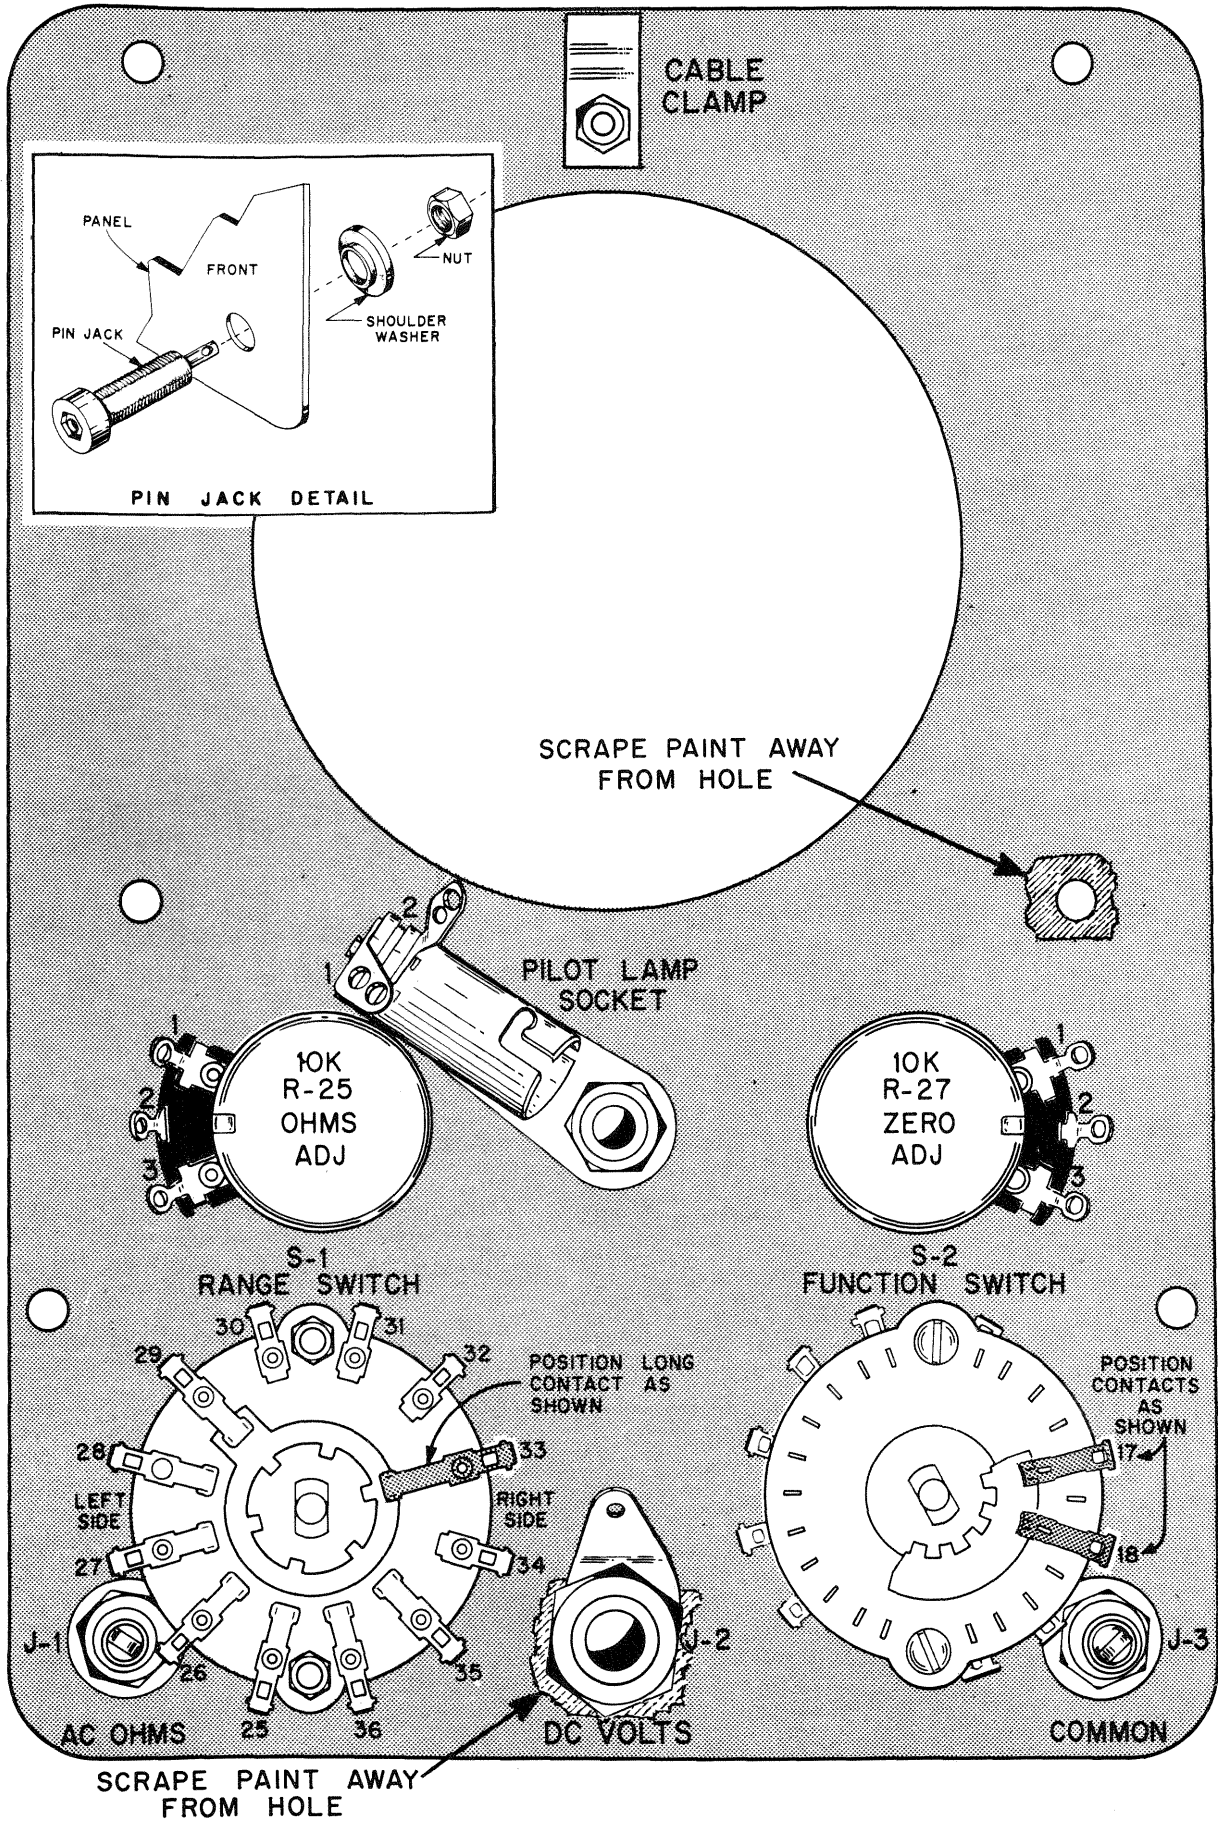
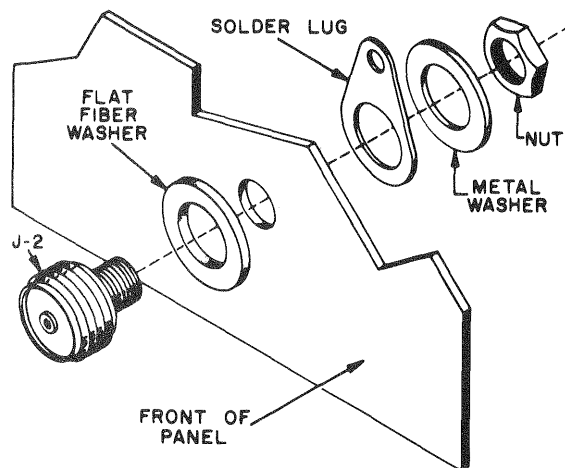

FIGURE 1. MOUNTING THE PARTS ON THE PANEL
FIGURE 4. HOW TO MOUNT THE CHASSIS CONNECTOR
### SEE FIGURES 1 AND 2
- (X) Mount R-27, 10K ohm ZERO ADJUST potentiometer, in the large hole in the right center of the panel, in the same manner.
- (X) Mount the pilot light socket between R-25 and R-27. The bracket must be positioned as shown in Figure 1. THE BRACKET MUST BE CLOSE TO R-25 BUT NOT TOUCHING IT.
- (X) Mount J-1, the red pin jack, in the lower left corner of the panel. Use a **shouldered fiber washer** on the **inside of the panel** to insulate the jack from the panel. Now, tighten a nut against the washer. Refer to the pin jack detail in the upper left corner of Figure 1.
- (X) Mount J-3, the black pin jack, in the lower right corner of the panel in the same manner.
- (X) Scrape the paint from the two holes as shown.
- (X) Mount J-2, the chassis connector in the large hole in the lower center of the panel. This connector is supplied with a shouldered fiber washer. Take this washer off and throw it away. Place the flat fiber washer over the small threaded end of the connector. Scrape the paint from around this hole on the rear of the panel. Insert the small threaded end through the hole in the panel. Place the solder lug and the flat metal washer on the connector and tighten the nut securely. See Figure 4.
- (X) Mount S-1, the long triple wafer RANGE switch in the hole in the lower left corner of the panel. The long contact on the end wafer must be positioned as shown in Figure 1. The blank space on the wafer near the shaft end must be toward J-1. Use a large nut and a lockwasher on the inside of the panel. Fasten it securely with another large nut. Place a large knob on the shaft. Be sure the line on the knob lines up exactly with the printed dots on the panel. If not, rotate S-1 so the scale on the panel and the line on the knob correspond.
- (X) Mount S-2, the other triple wafer FUNCTION switch, in the other hole on the right of the panel. Use another large nut and lockwasher inside the panel. Use a large nut outside the panel. Again place a knob on the shaft and be sure that the line on the knob lines up with the scale on the panel.